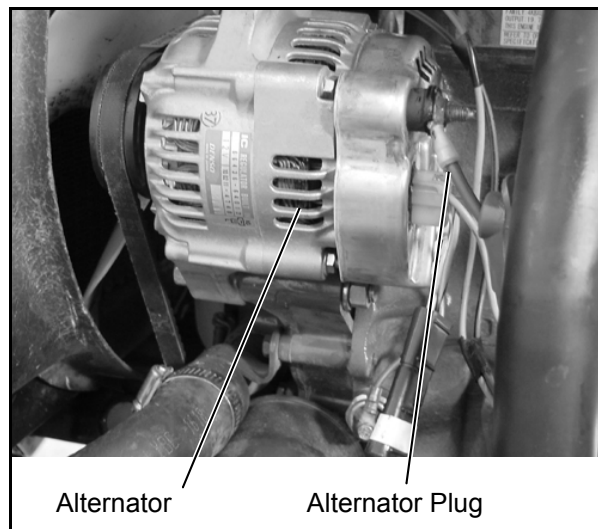

Figure 10E-3. Alternator
2. Set multimeter to the continuity scale (Figure 10E-4).